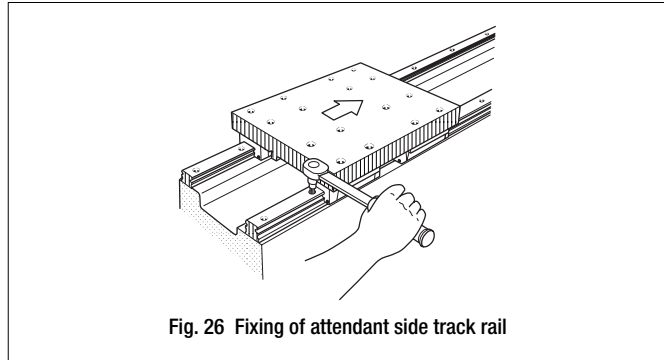

Fig. 26 Fixing of attendant side track rail
- While moving the table by hand and ensuring its smooth movement, fix the Linear Way II track rail to the bed with the mounting bolts. During this procedure, tighten the mounting bolt immediately behind the fixed slide unit of Linear Way II, while progressively moving the table from one rail end to the other. (See Fig. 26.)